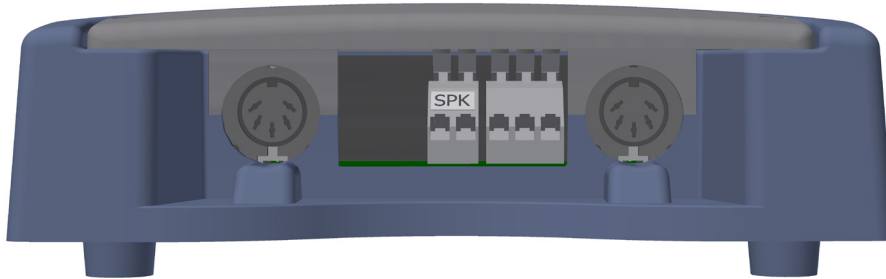

Fig 4: Installation
4. Connect the Transmit (TX) and Receive (RX) leads into the Controller sockets (see Fig 4).